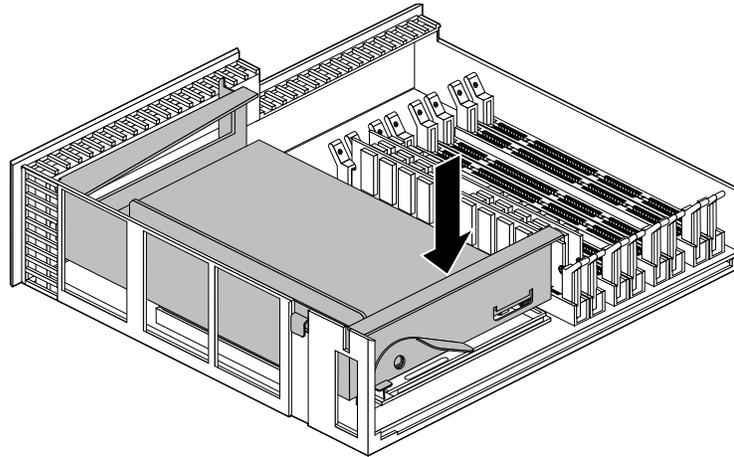

Figure 1-19 PCI Tray Seated Correctly
3. Push the tray down firmly until it is completely seated. You hear a click as it seats (Figure 1-19).